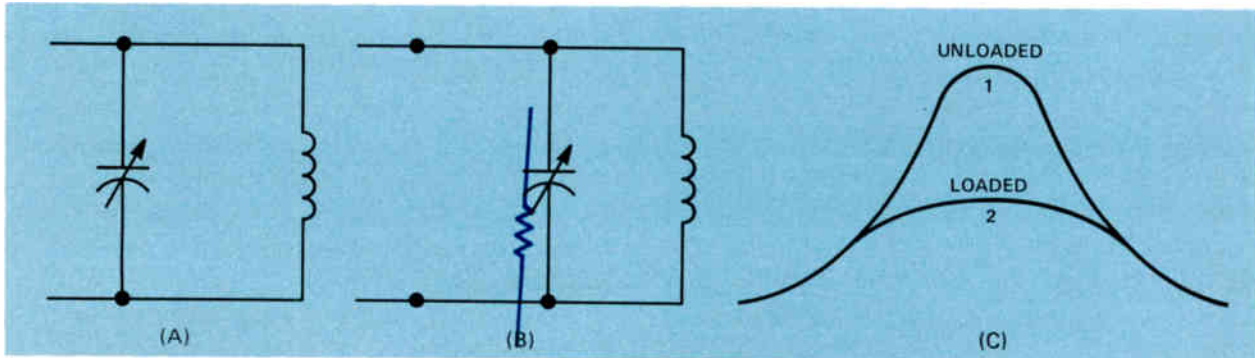

Figure 20. The response curves at (C) show the effect of loading a parallel resonant circuit as at (B).
We can change the bandwidth of a resonant circuit by loading the circuit. This is usually done by connecting a resistor across the circuit. In Fig.20(A), we have shown a resonant circuit and curve 1 of Fig.20(C) represents the response curve of the circuit. In Fig.20(B), we've shown the same resonant circuit with a resistor connected across it and curve 2 of Fig.20(C) shows the response curve of the circuit with the resistor in parallel with it. The resistor lowers the peak of the response curve, and broadens the band of frequencies over which the response will be at least 70.7% of that at resonance.